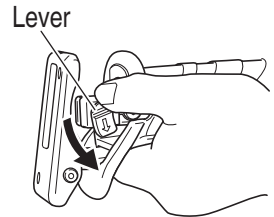

Fig. 2
- (2) Push the lever in the direction of the arrow mark shown in Fig. 2 marked on the lever. (Fig. 2)
- (2) After you have pushed the lever in the direction of the arrow mark shown in Fig. 2, turn the blade so it faces downward. The blade should fall out by itself. If the blade doesn't fall out, pull it out by hand.